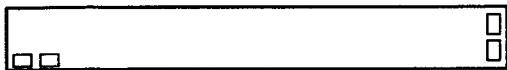

Fig. 1-10
- Flexible Cable (Part Number: YWV0EA0294AN) for between System Control Board and Digital Process Board as shown in Fig. 1-10.